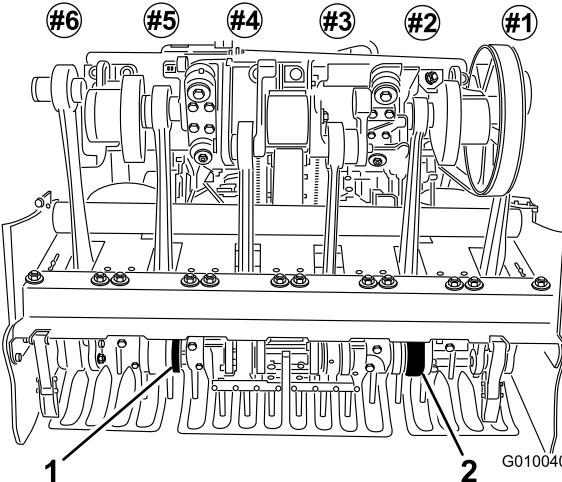

Figure 25
5. Install tines into the #2 and #5 tine holders (Figure 25) Tighten the bolts.